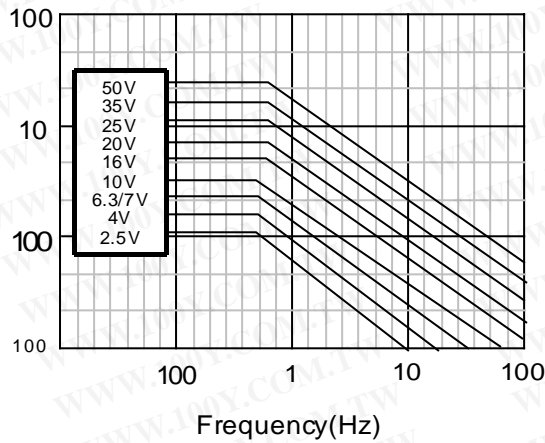

Fig.6 Maximum permissible ripple voltage
- The maximum permissible ripple voltage varies with the rated voltage. Ensure that ripple voltage does not exceed the values shown in Figs 6 and 7. If, however, the capacitors are used at a high temperature, the maximum permissible ripple voltage must be calculated as follows: